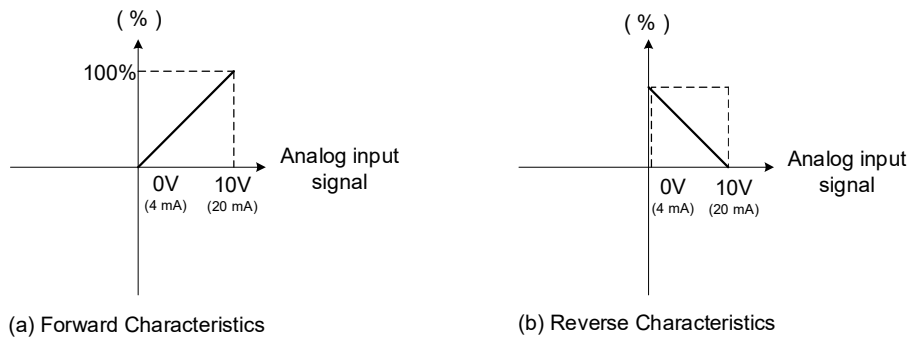

Figure 4.3.12 Positive/inverse characteristics of the primary frequency reference
- Please refer to Figure 4.3.12 below for the characteristics of the primary frequency reference